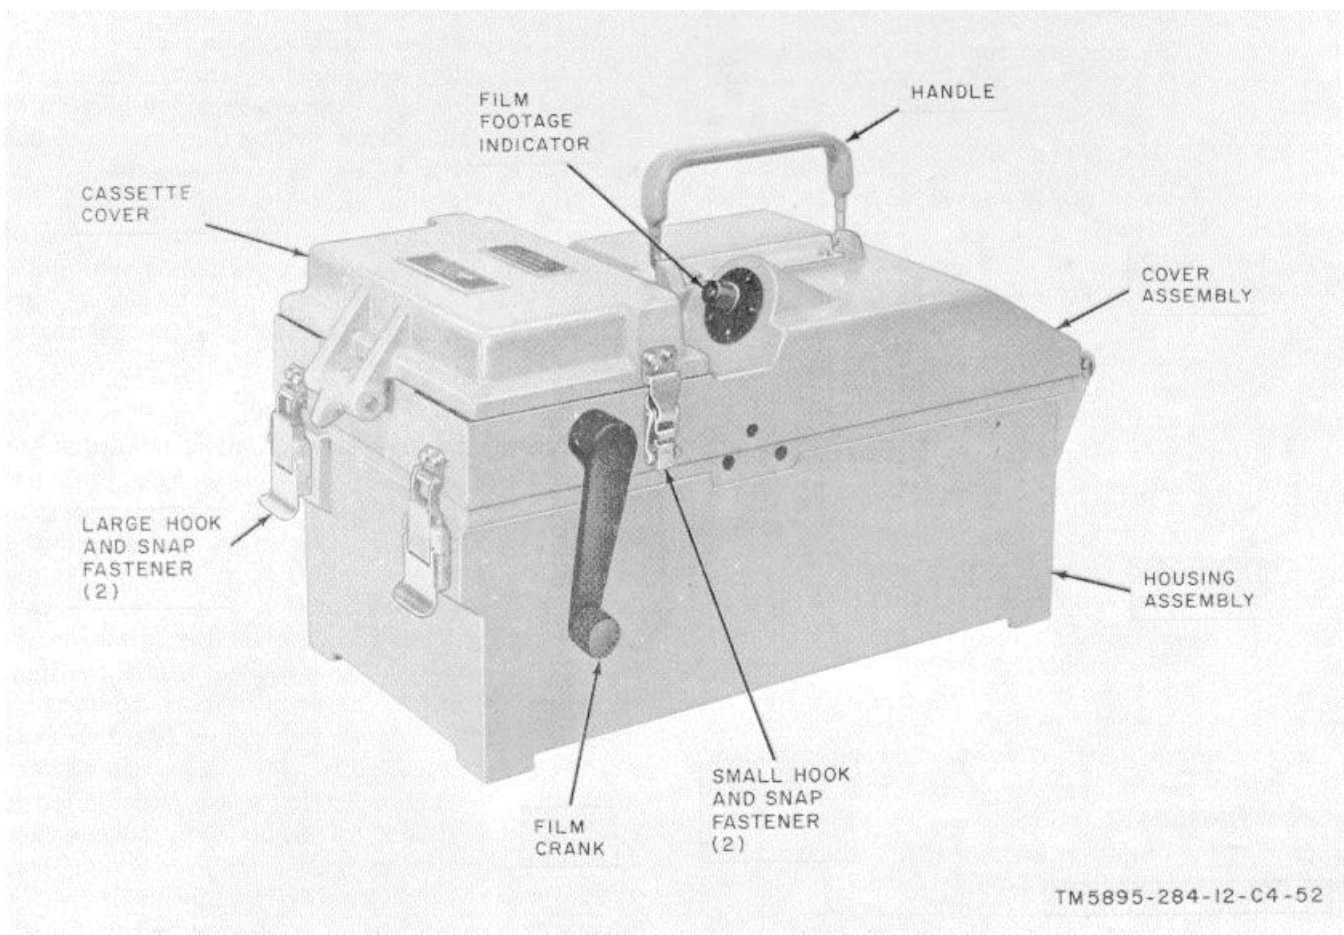

Figure 1-19. Loader, Film Photographic MX-4668/APS94.
g. *Loader, Film Photographic MX-4668/APS-94 (fig. 1-19).* The film loader provides a rapid and convenient means of loading the storage cassettes used in Recorder, Radar Mapping RO225A/APS-94A. This equipment consists of a hand-operated mechanism housed in a lighttight cast-aluminum case. The case consists of a housing assembly and a cover assembly, which is equipped with a cassette cover, a handle, a film footage indicator, and a film crank. Two large hook and snap fasteners secure the cover assembly in the closed position. The cassette cover also is held in the closed position by two small hook and snap fasteners. The film loader is 7.9 inches high, 16.6 inches long, and 9.3 inches wide.